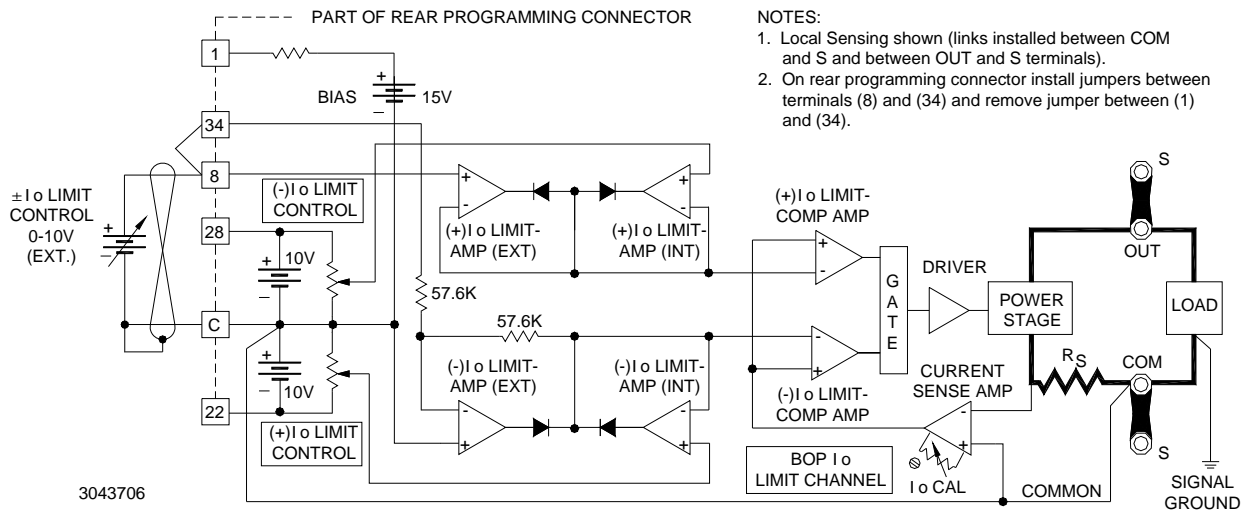

FIGURE 3-12. SYMMETRICAL REMOTE CONTROL OF THE CURRENT LIMITS
For remote control of current limiting, the $\pm I_O$ Limit Amplifiers (EXT) are disconnected from the 15V Bias source by removing jumpers between (1) - (34) and (34) - (8) at the Rear Programming Connector (see Figure 3-12). An external 0 to +10V control signal is applied to terminals 8 and 34, with reference to common. This control signal programs both the negative and positive current limit simultaneously and symmetrically over the BOP output current range.